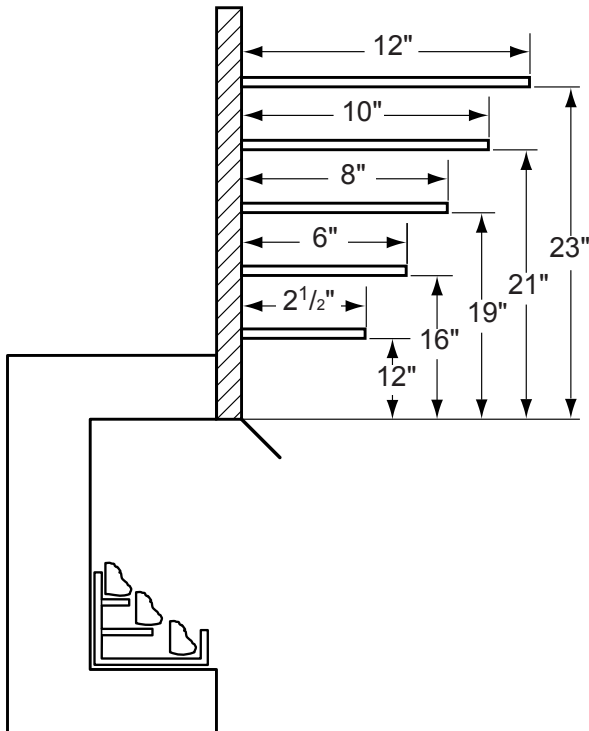
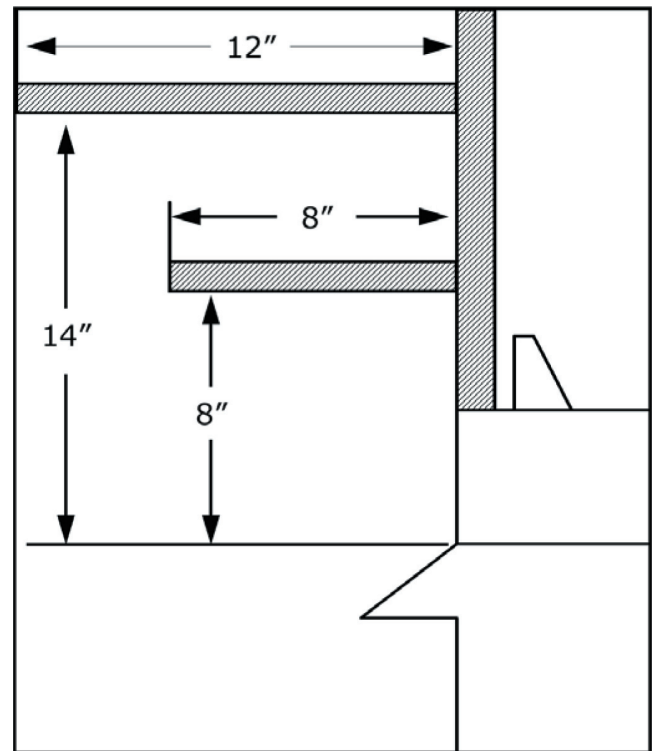

Figure 7A - Mantel Clearances
Figure 7B - Mantel Clearances for Wide Profile Canopy Only.
5. **Mantel clearances:** The canopy supplied with the unit must be installed. If a combustible mantel is installed, it must meet the clearance requirements as shown in *Figure 7A*. However, if lower mantel height is desired, *see page 15 and Figure 7B*.